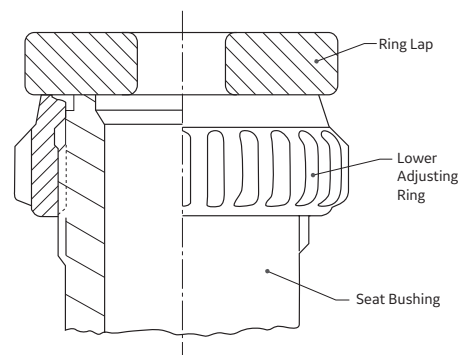

Figure 28: Bushing Seat Assembly
Note: For a valve set pressure of 1200 psig (81.6 barg), the ring will have to be lowered two (2) notches below the bushing seat. This will be the starting position, with the final position being determined during field testing (See Figure 28).